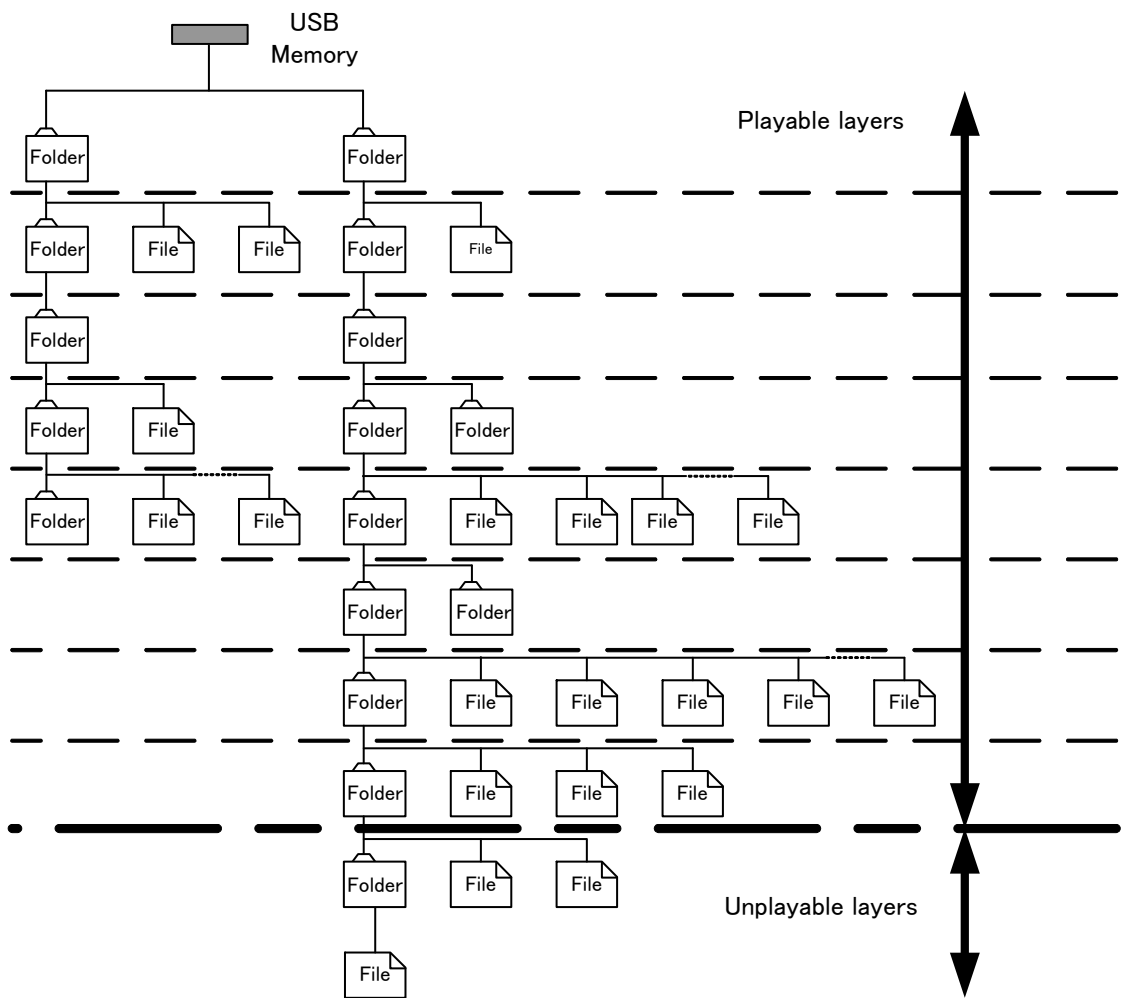

Figure VII.1.1 Example of Memory Layers
- The searchable folder hierarchy is of 8 layers containing the root folder. Figure VII.1.1 shows an example of memory layers.